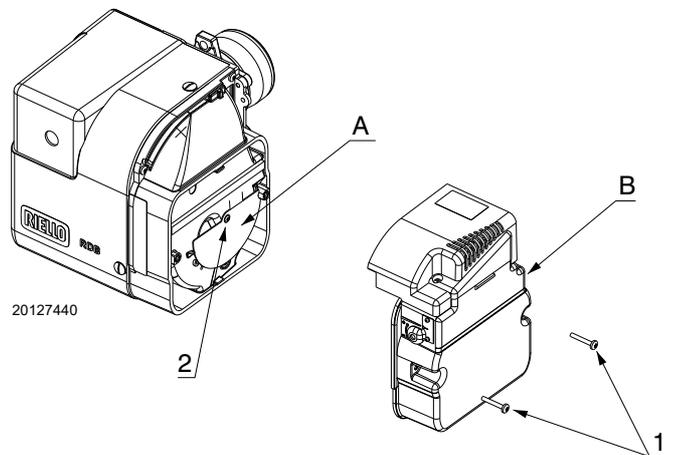
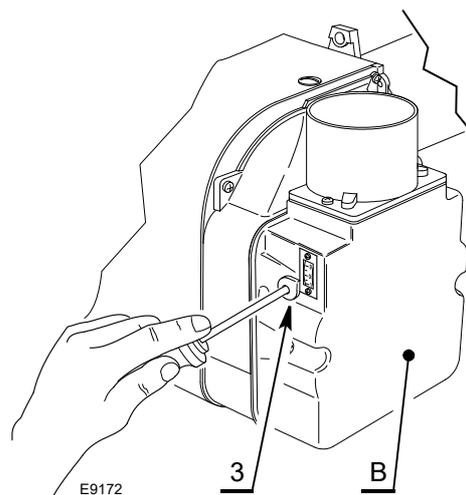

Fig. 17
Fig. 18
The air setting is performed by mean of two independent dampers (see Fig. 17 and Fig. 18).
Main air damper (A)(Fig. 17) - only for code 3514157
The main air damper (A) must be locked in the position indicated in Fig. 17.
- Remove the secondary air damper (B) loosening the screws 1).
- Loosen the screw 2) and rotate the main air damper (A) to the required position.
- Re-tighten the screw 2) and put back the secondary air damper (B).
Secondary air damper (B)(Fig. 18)